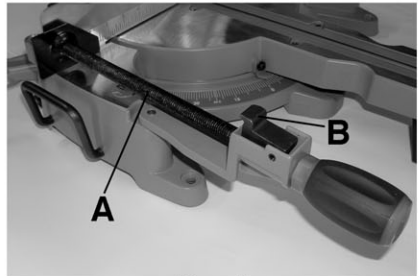

Figure 5
The horizontal quick adjust vise (A) Fig.5 can be installed in two positions on either the left or right side of the table base. Insert the vise pivot shaft into the hole in the base as shown. To adjust the position of the vise, simply turn the handle or use the quick adjust feature by lifting the half nut (B) and pushing or pulling the handle to position the vise. Reposition the half nut on the threaded shaft to secure the vise in place.